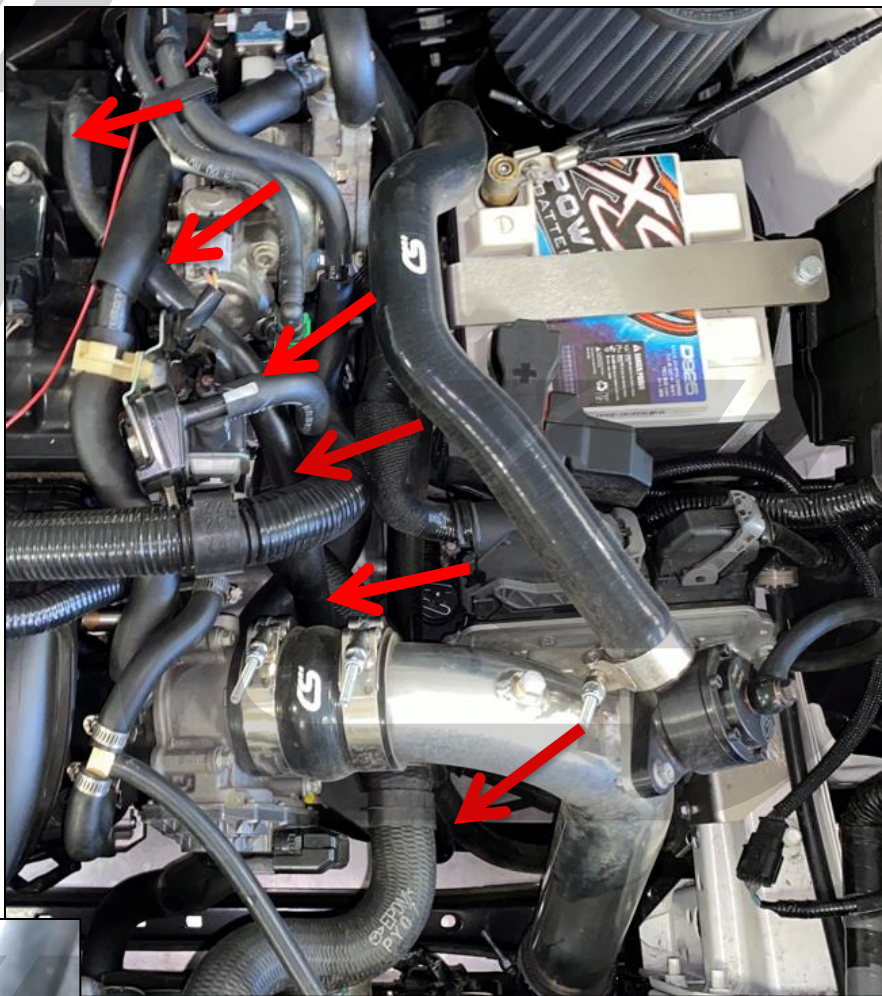

Figure 5f
m) Install supplied hose onto the reducer fitting coming off the valve cover. Route down towards the T fitting installed earlier. Approximate routing with turbo kit shown in Figure 5f.